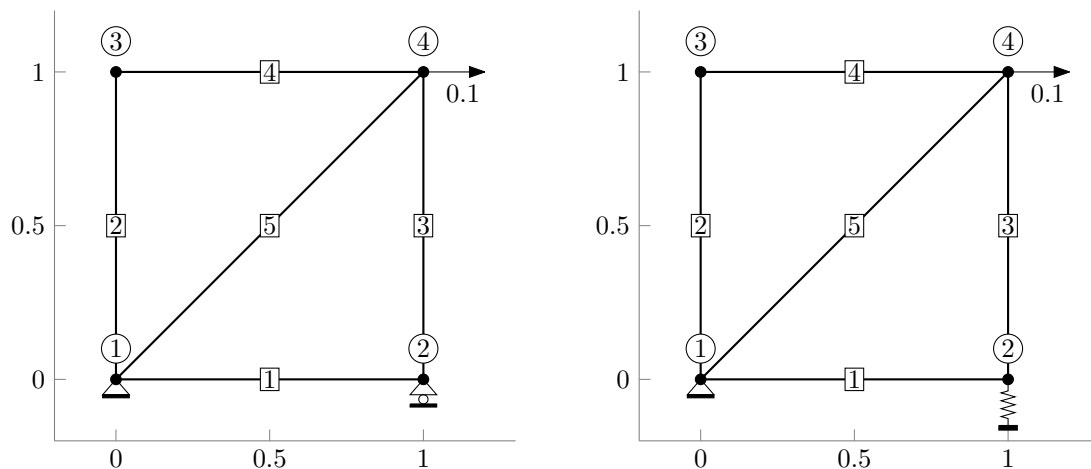

Figure 1: Truss 0 (left) and Truss 1 (right)
**Problem 2:** (20 points) Solve for the displacement of the nodes of the truss 0 (Figure 1) using equilibrium at each node and Hooke's law. The Young's modulus times the cross-sectional area of each element are:  $EA_e = e$  for  $e = 1, \dots, 5$ . Setup the linear system of equations by hand and use MATLAB to solve it. Report the displacements and forces of all nodes.
**Problem 3:** (20 points) Solve for the displacement of the nodes of the truss 1 (Figure 1) using equilibrium at each node and Hooke's law. The spring is at rest when the truss is in its undeformed configuration (Figure 1). The Young's modulus times the cross-sectional area of each element are:  $EA_e = e$  for  $e = 1, \dots, 5$  and the stiffness of the spring is  $k = 1$ . Recall the force in a spring is  $F = k\Delta x$  where  $\Delta x$  is the deformation of the spring from its rest configuration. Setup the linear system of equations by hand and use MATLAB to solve it. Report the displacements and forces of all nodes.
**Problem 4:** (50 points) In this problem, you will implement the direct stiffness method in a series of steps. Before proceeding, carefully review the below code/comments as they provide crucial information regarding the specification of the truss topology, material properties, and boundary conditions, which will be needed to implement the direct stiffness method. For concreteness, the code below defines truss 0 (Figure 1).